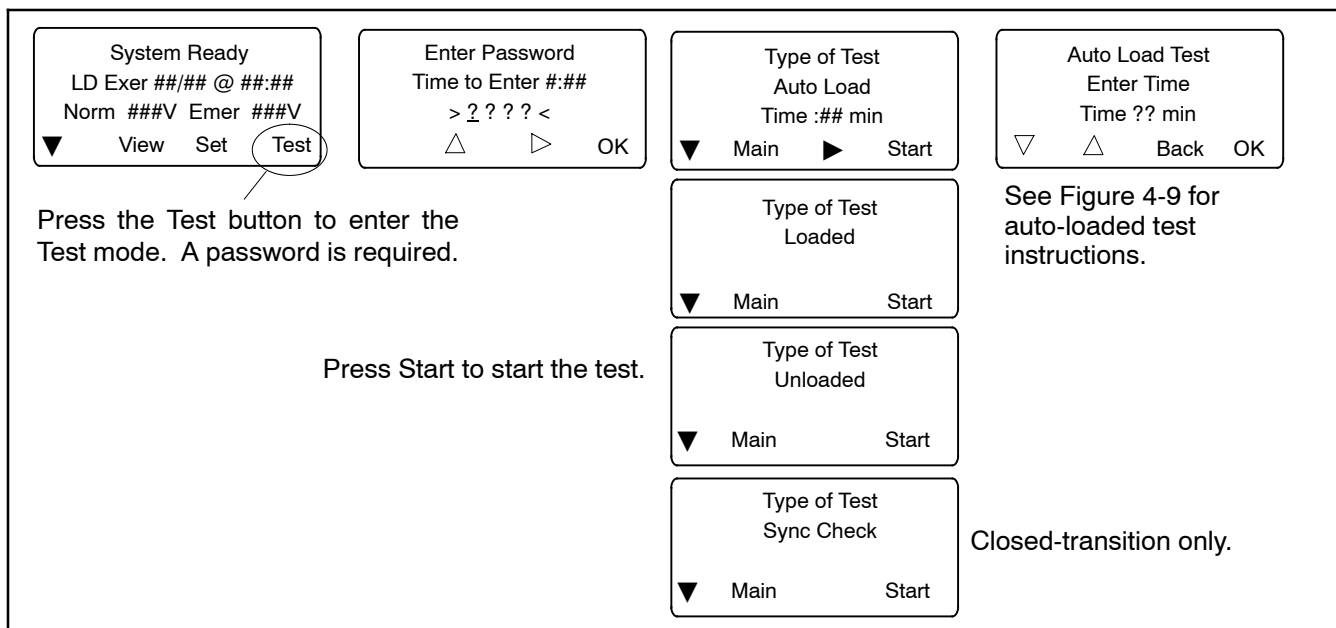

Figure 4-8 Test Screens
3. Refer to Figure 4-8. From the main screen, press the Test button. Enter the test password when prompted and press OK.